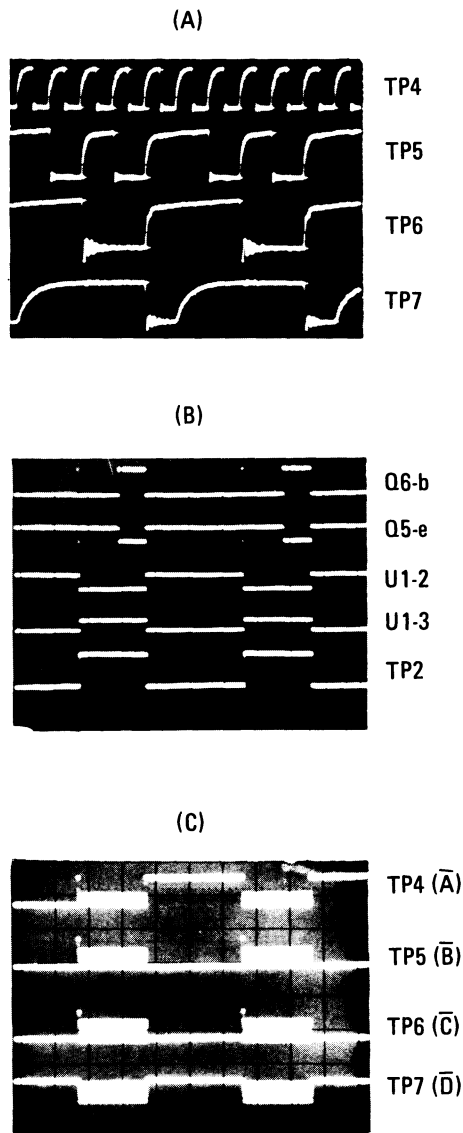

Figure 8-33. High Frequency Decade Assembly A6 Test Waveforms
- Connect the oscilloscope in turn to output test points 4, 5, 6, and 7 respectively on the High Frequency Decade Assembly. Set the oscilloscope TIME/DIV to 5 msec and the VOLTS/DIV to .5. The oscilloscope display should appear as shown in C of Figure 8-33.